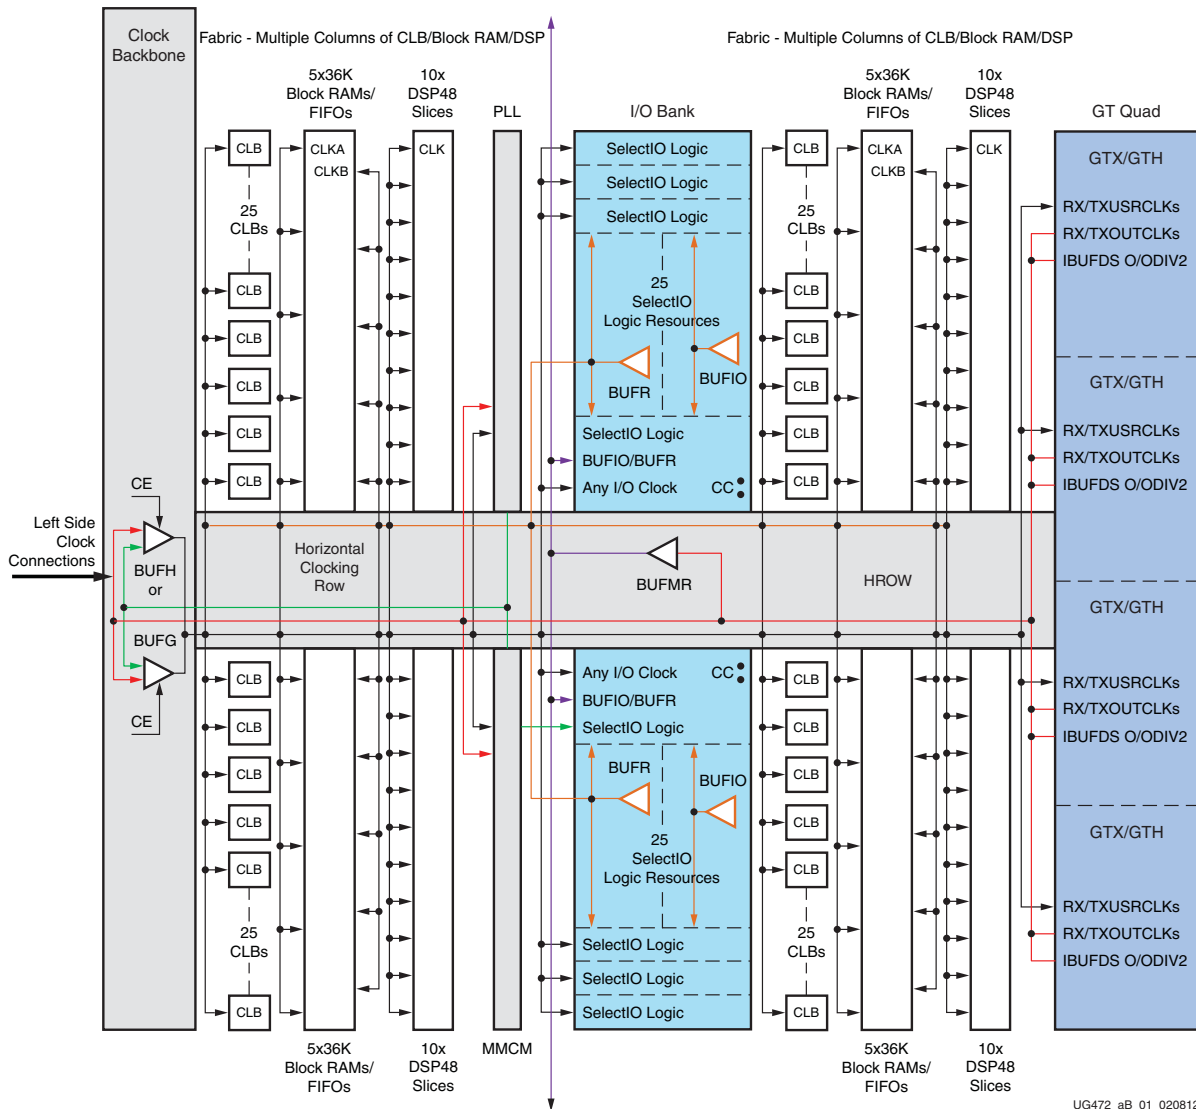
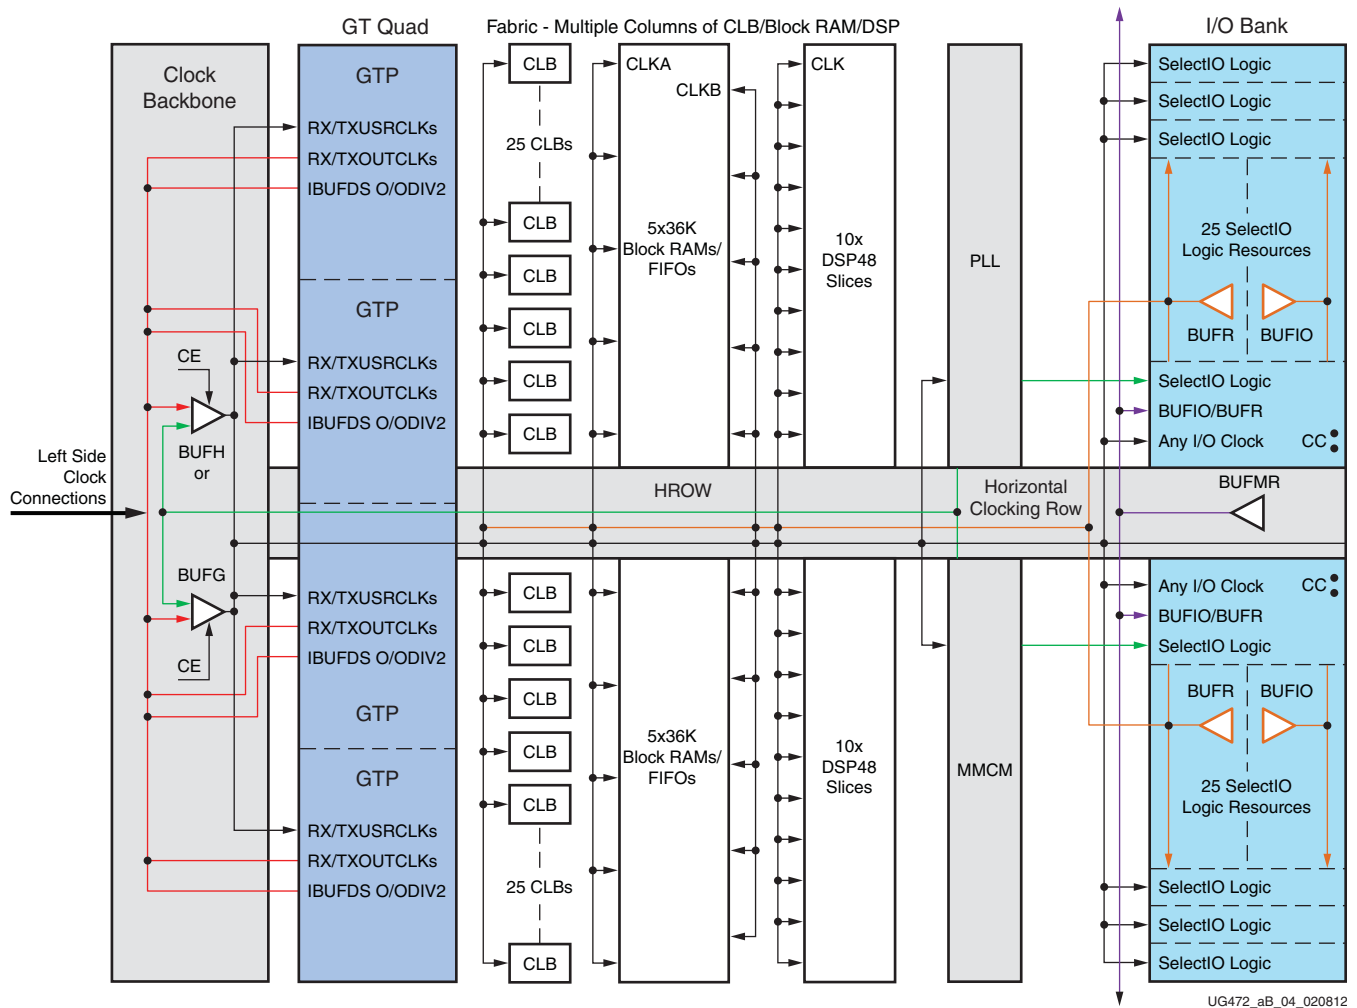

Figure B-1: Clock Region in Virtex-7 FPGAs (Right Side)
Figure B-4: Clock Region in a Artix-7 XC7A200T Device with GTP Transceivers and I/O Banks (Right Side)
Figure B-1 through Figure B-4 show the clocking resources and connectivity for the clock region variations.
**Note:** See Figure B-4 for the XC7A200T diagram.